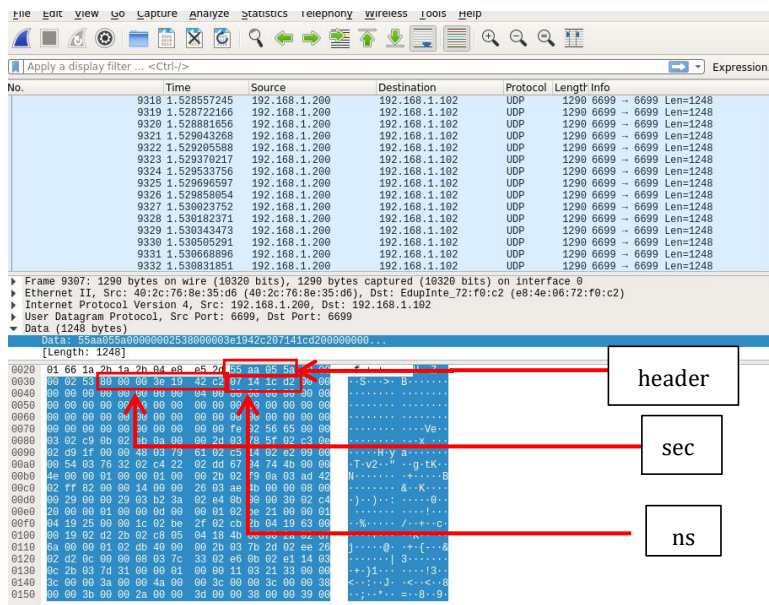

Figure 9: the Data Format of PTP.
(1) The time stamps are divided into second part and nanosecond part. The second part shown in Figure 9 is 0x00003e1942c2(1041842882); the nanosecond part is
(2) The second part is UTC timestamp, which indicates the incremental count of seconds from 0:00 (London time) on January 1, 1970 to the current time. Figure 9 shows the identification of London time 2003/01/06 09:48:02;
(3) The maximum value of the nanosecond part is 0x3B9AC9FF(99999999), after the maximum value is increased by 1, the nanosecond returns to zero and the second will be added to 1, as shown in Figure 9 is 118758610 nanosecond;
(4) Most PC development environments have time conversion functions, such as including system library < time.h >, time.gmtime (&t) function can convert timestamp to London time.